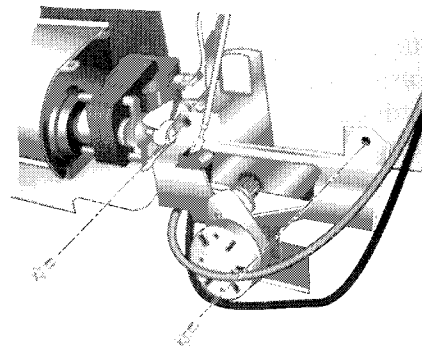

Fig. 27
1. Disconnect the two (2) wiring harness connectors from the terminals of the door latching motor.
2. Remove the two (2) screws securing the door latching motor assembly to the rear insulation cover. (Fig. 27)